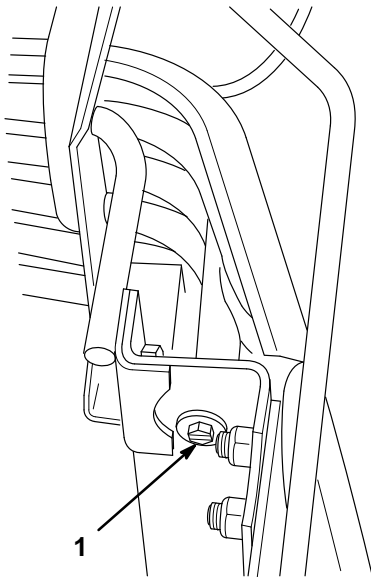

Figure 10
4. Remove the tractor's front grill by raising the hood and unscrewing the two screws and washers securing it in place (Fig. 10). Close the hood and remove the grill by pulling it out toward you.
- 12. Replace the front grill of the tractor, securing it with the two previously removed screws and washers (Fig. 10).